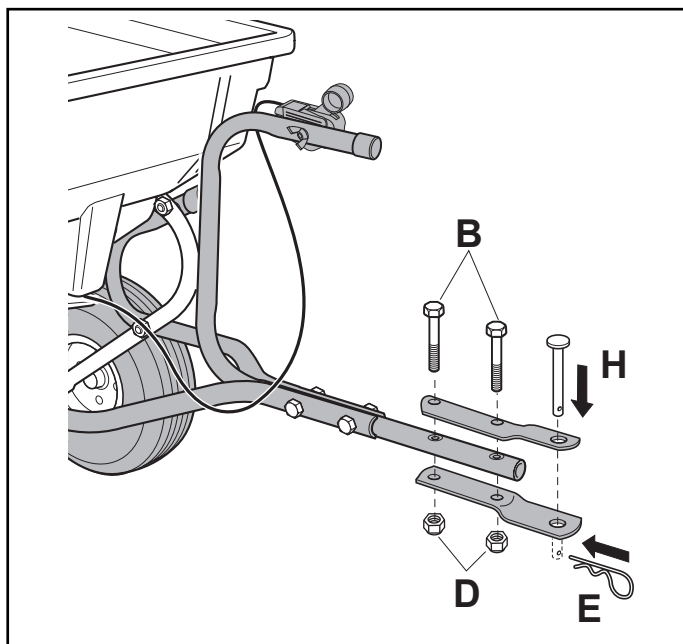

FIGURE 8
- Assemble the Hitch Brackets to the Hitch Control Tube using two 1/4" x 1-3/4" hex bolts (B) and 1/4" nuts (D). **Tighten.** See figure 8.
- Assemble the hitch pin (H) through the hitch brackets and secure with the 1/8" hair cotter pin (E). See figure 8.